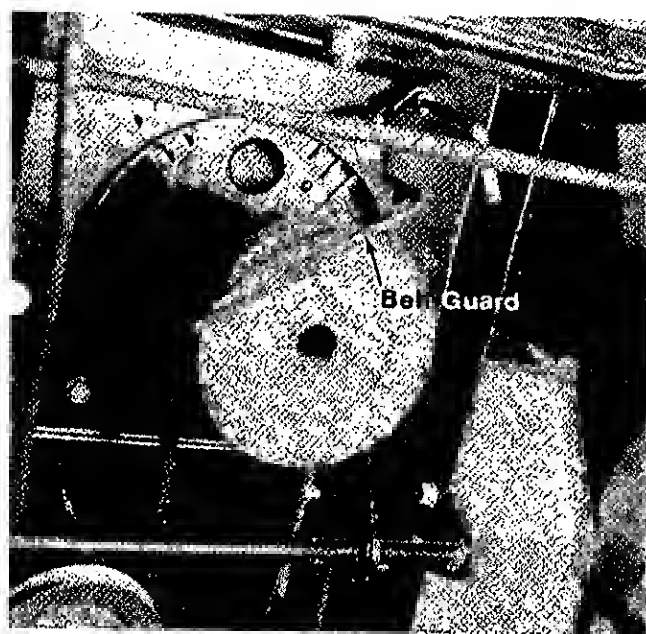

FIGURE 24.
4. Swing the belt guard forward towards the front of the tractor. (See figure 24.)